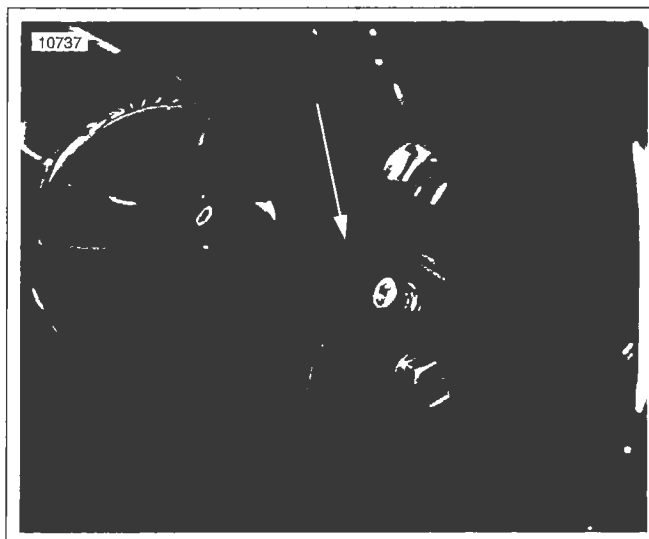

Figure 8-7. Installed CKP Sensor
2. See Figure 8-7. Install **new** CKP sensor with screw and captive washer. Tighten screw to 90-120 **in-lbs** (10.2-13.6 Nm).